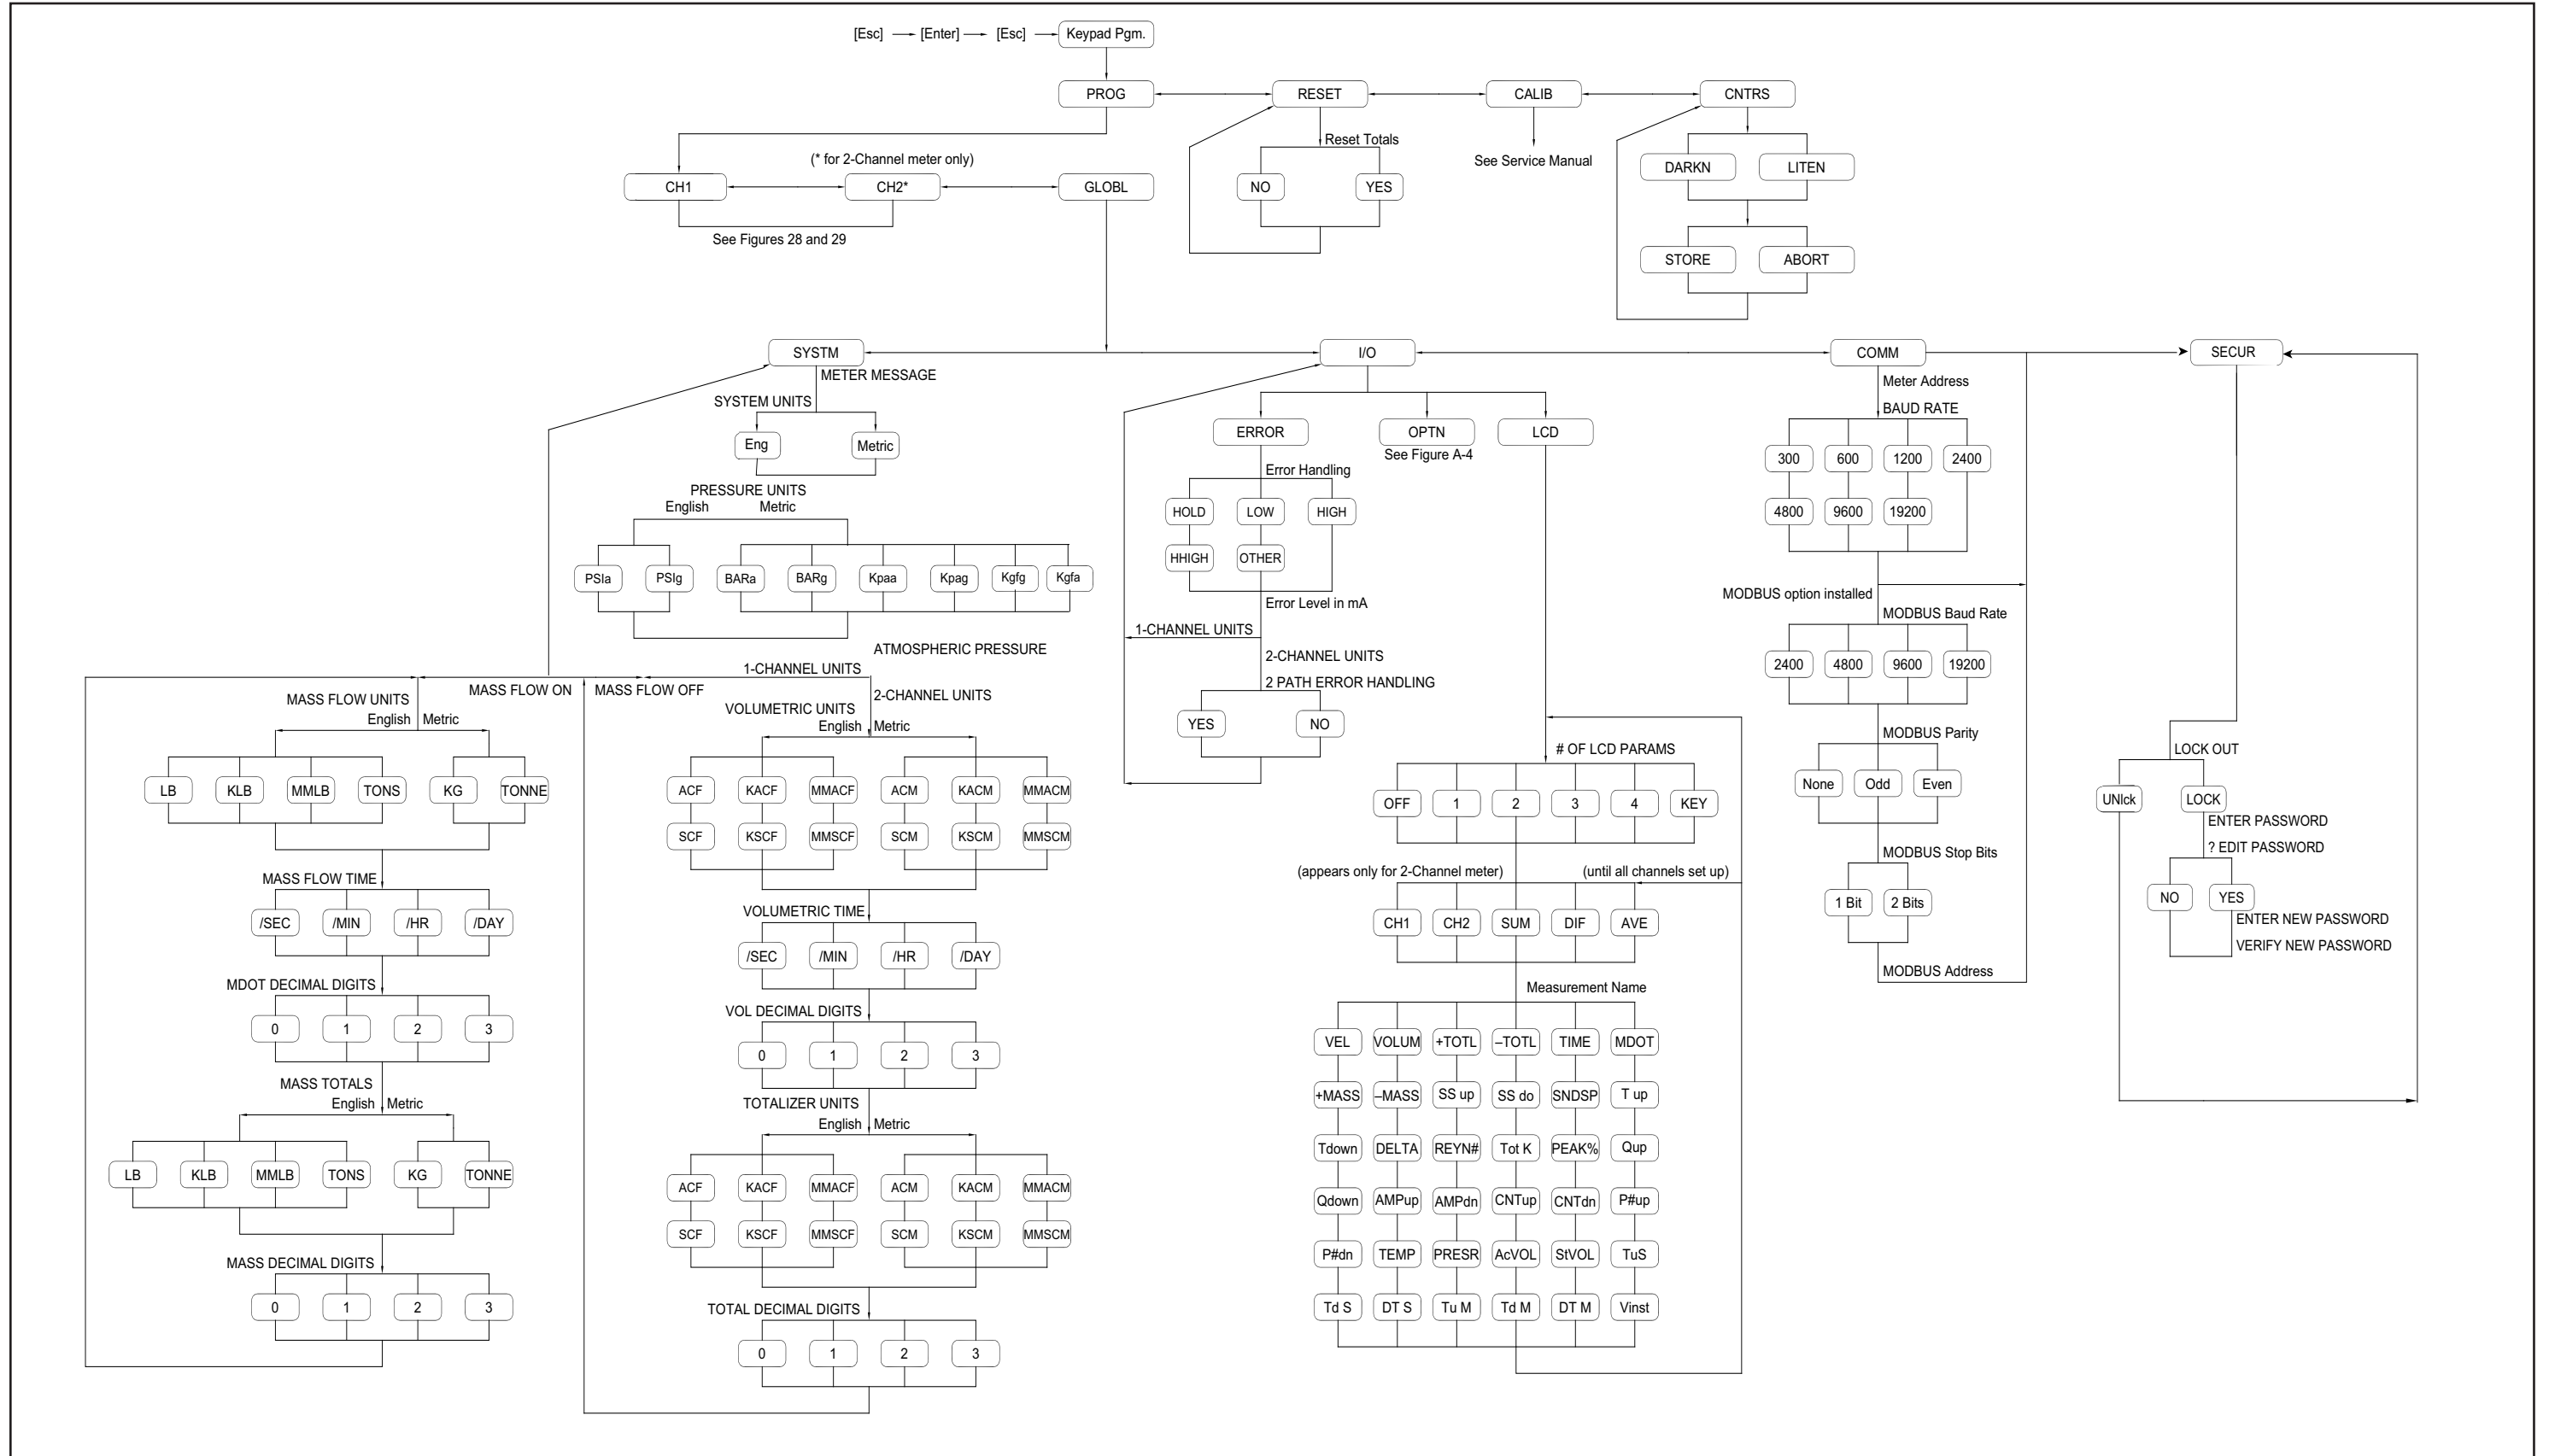

Figure 30: PROG > GLOBL > SYSTEM, I/O & COMM Menus
- Figure 30, “PROG > GLOBL > SYSTM, I/O & COMM Menus,” on page 75